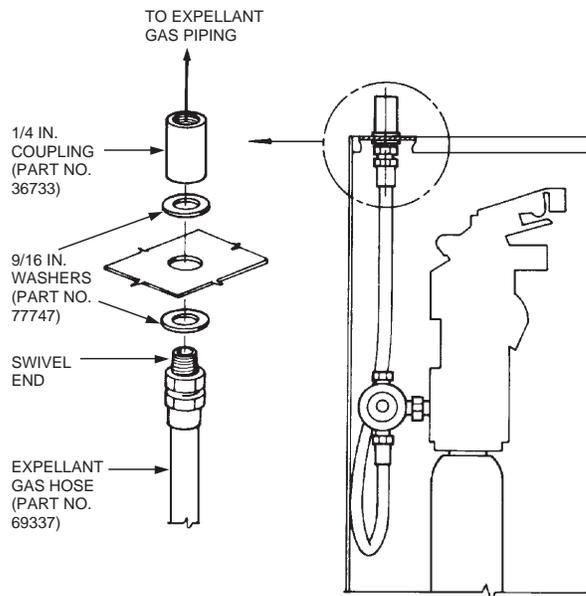

FIGURE 10
12. Place a 9/16 in. washer over swivel end of expellant gas hose and insert hose end through knockout previously used for expellant gas piping. (See Figure 10.)
13. Place other 9/16 in. washer over hose threads that extend through knockout. Install a 1/4 in. coupling on hose threads to secure hose to enclosure as shown in Figure 10. (Use pipe tape on male threads.)